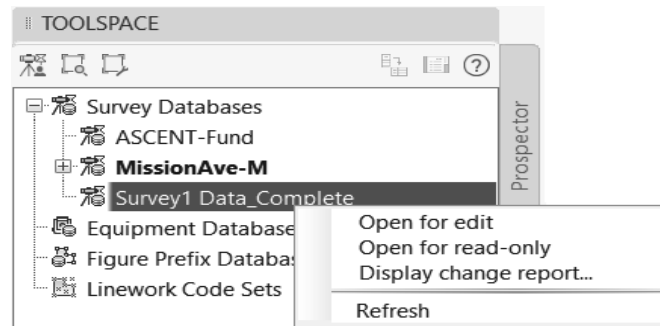

Figure 2–32
2. Select the survey database that you want to open, right-click, and select **Open for edit** or **Open for read-only**, depending on your requirements, as shown in Figure 2–32. Contrary to most Civil 3D functions, where double-clicking invokes an edit function, double-clicking on a survey database will open it as read-only.